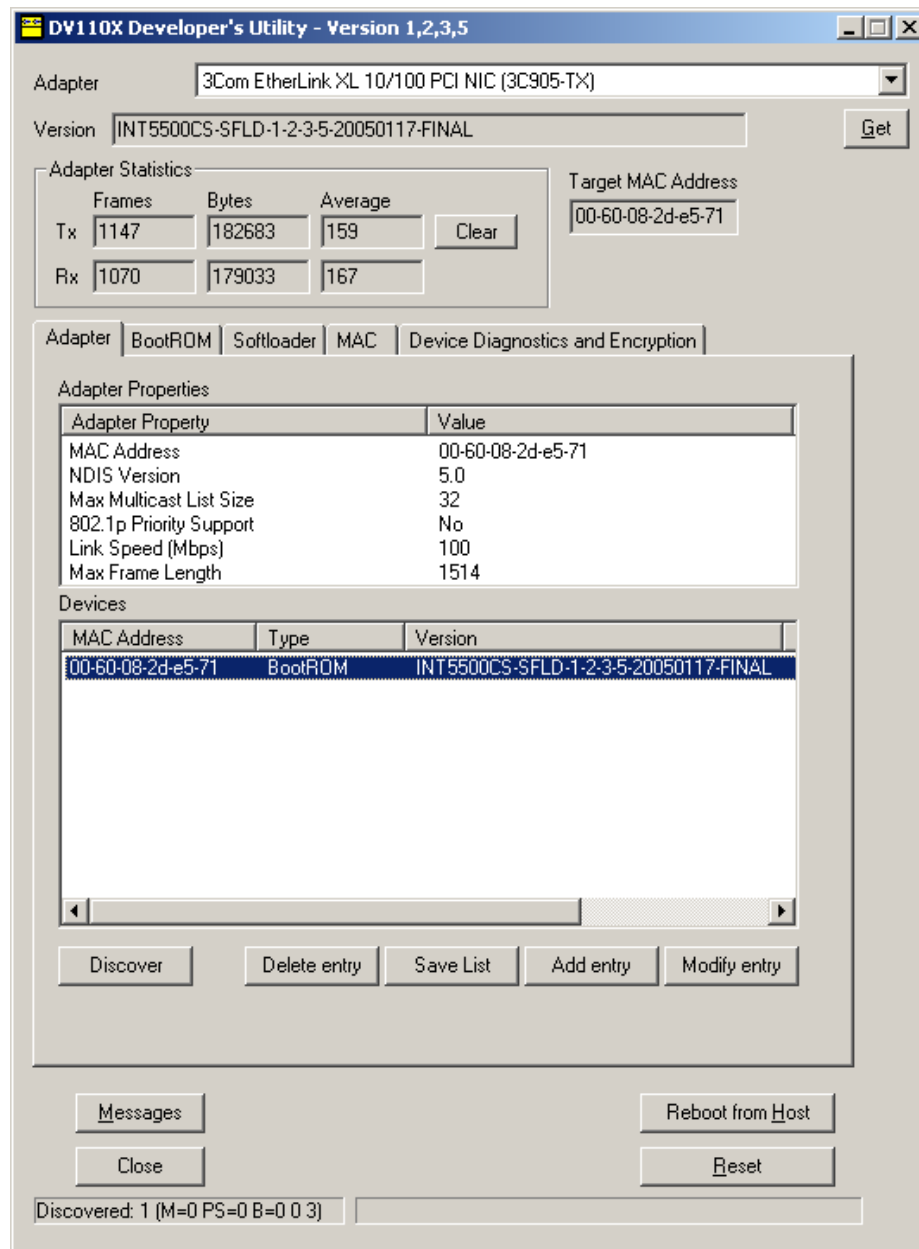

Figure 7: Adapter Tab with Softloader Version Displayed
26. Verify that the version field is updated with the updated firmware version name (e.g. INT5500CS-SFLD-x-x-x-x-xxxxxxx-FINAL, where the “x” give version specific information, as shown in Figure 7).